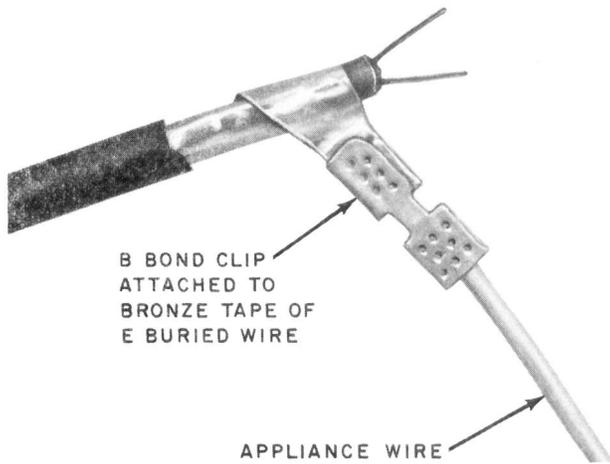

Fig. 27—Bonded Shield of E Buried Wire
7.05 Where the buried wire is over 700 feet in length, the metallic shield of the E buried wire must be bonded to the cable terminal. A B bond clip and B appliance wire may be installed on the metallic shield in a solderless connector as shown in Fig. 27.